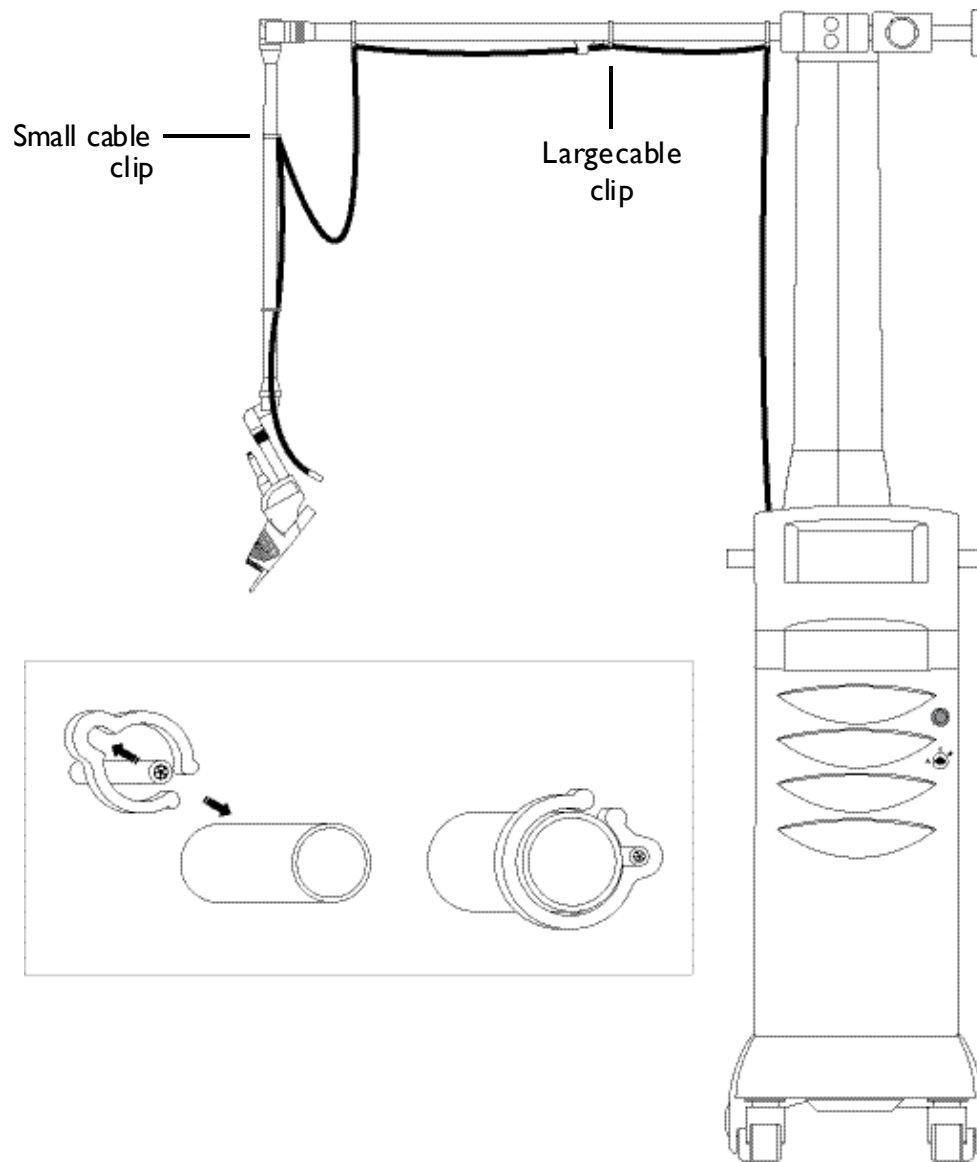

Figure 4-11: Securing the Communication Cable to the Articulated Arm
3. Secure the communication cable along the length of the articulated arm with the appropriately sized cable clips, as shown in Figure 4-11.